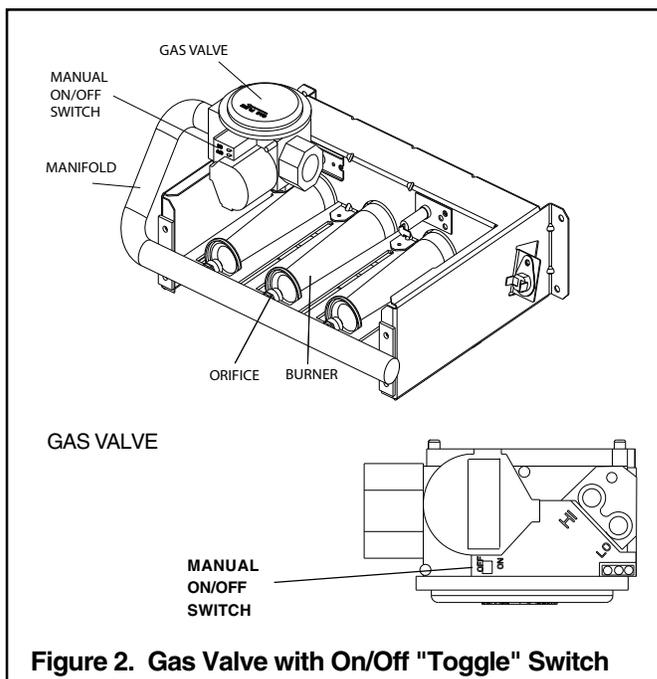

Figure 2. Gas Valve with On/Off "Toggle" Switch
4. Turn gas control **off** by moving the toggle switch to OFF. See Figure 2 on page 5.
5. Wait five (5) minutes to clear any gas. If you then smell gas, STOP!, for your safety follow the "What To Do If You Smell Gas" instructions on the front page. If you do not smell gas, go to next step.